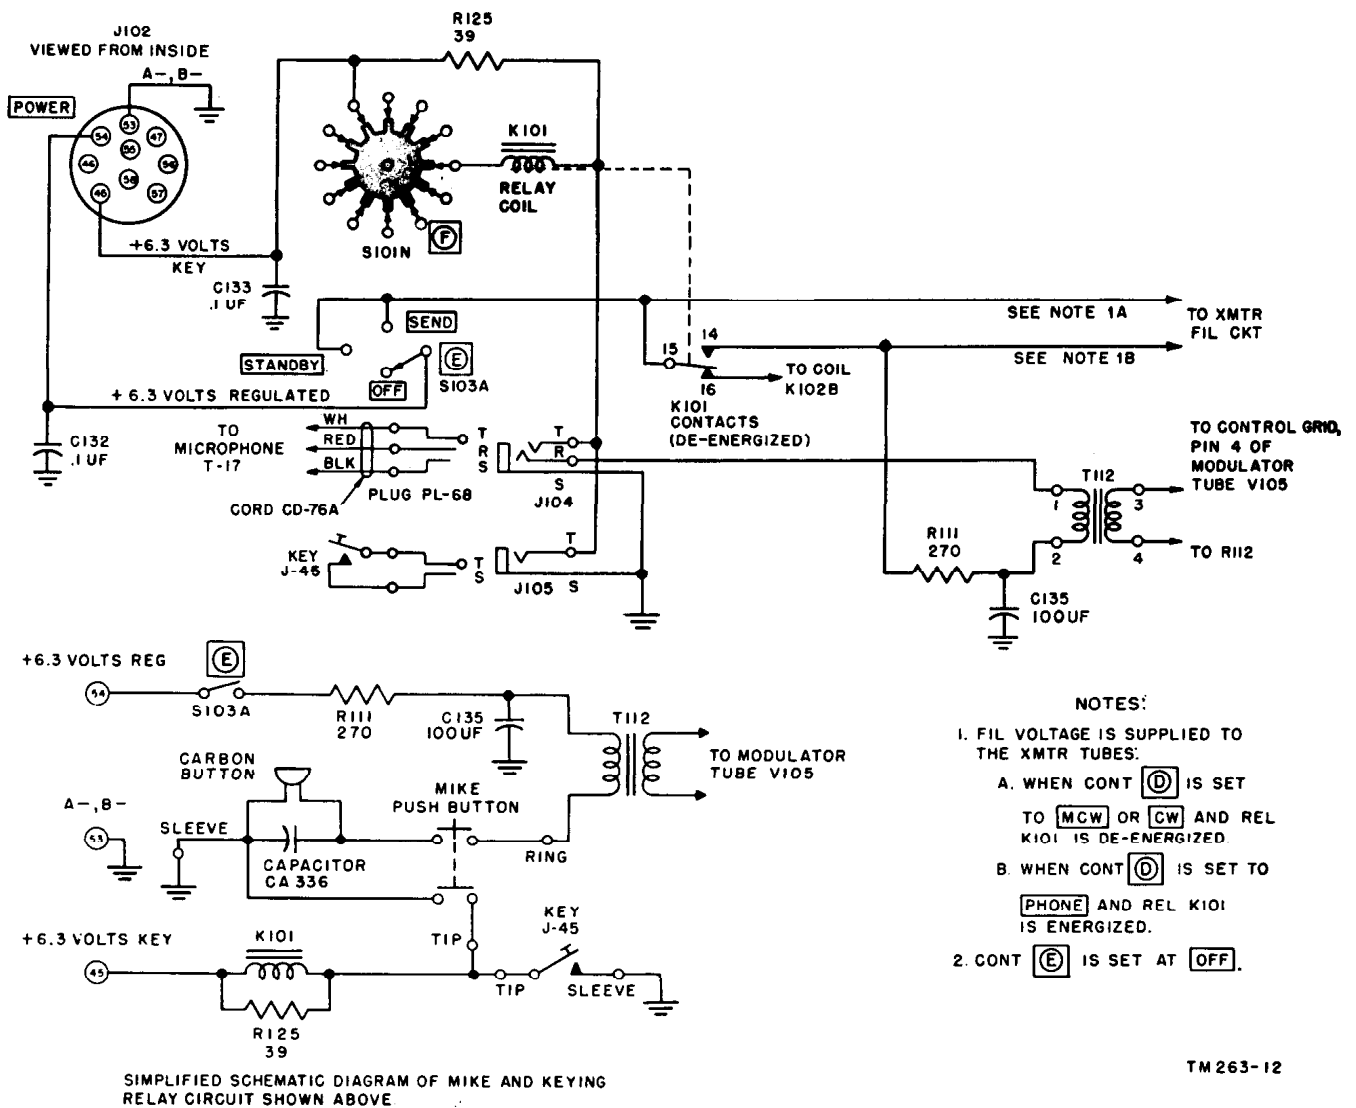
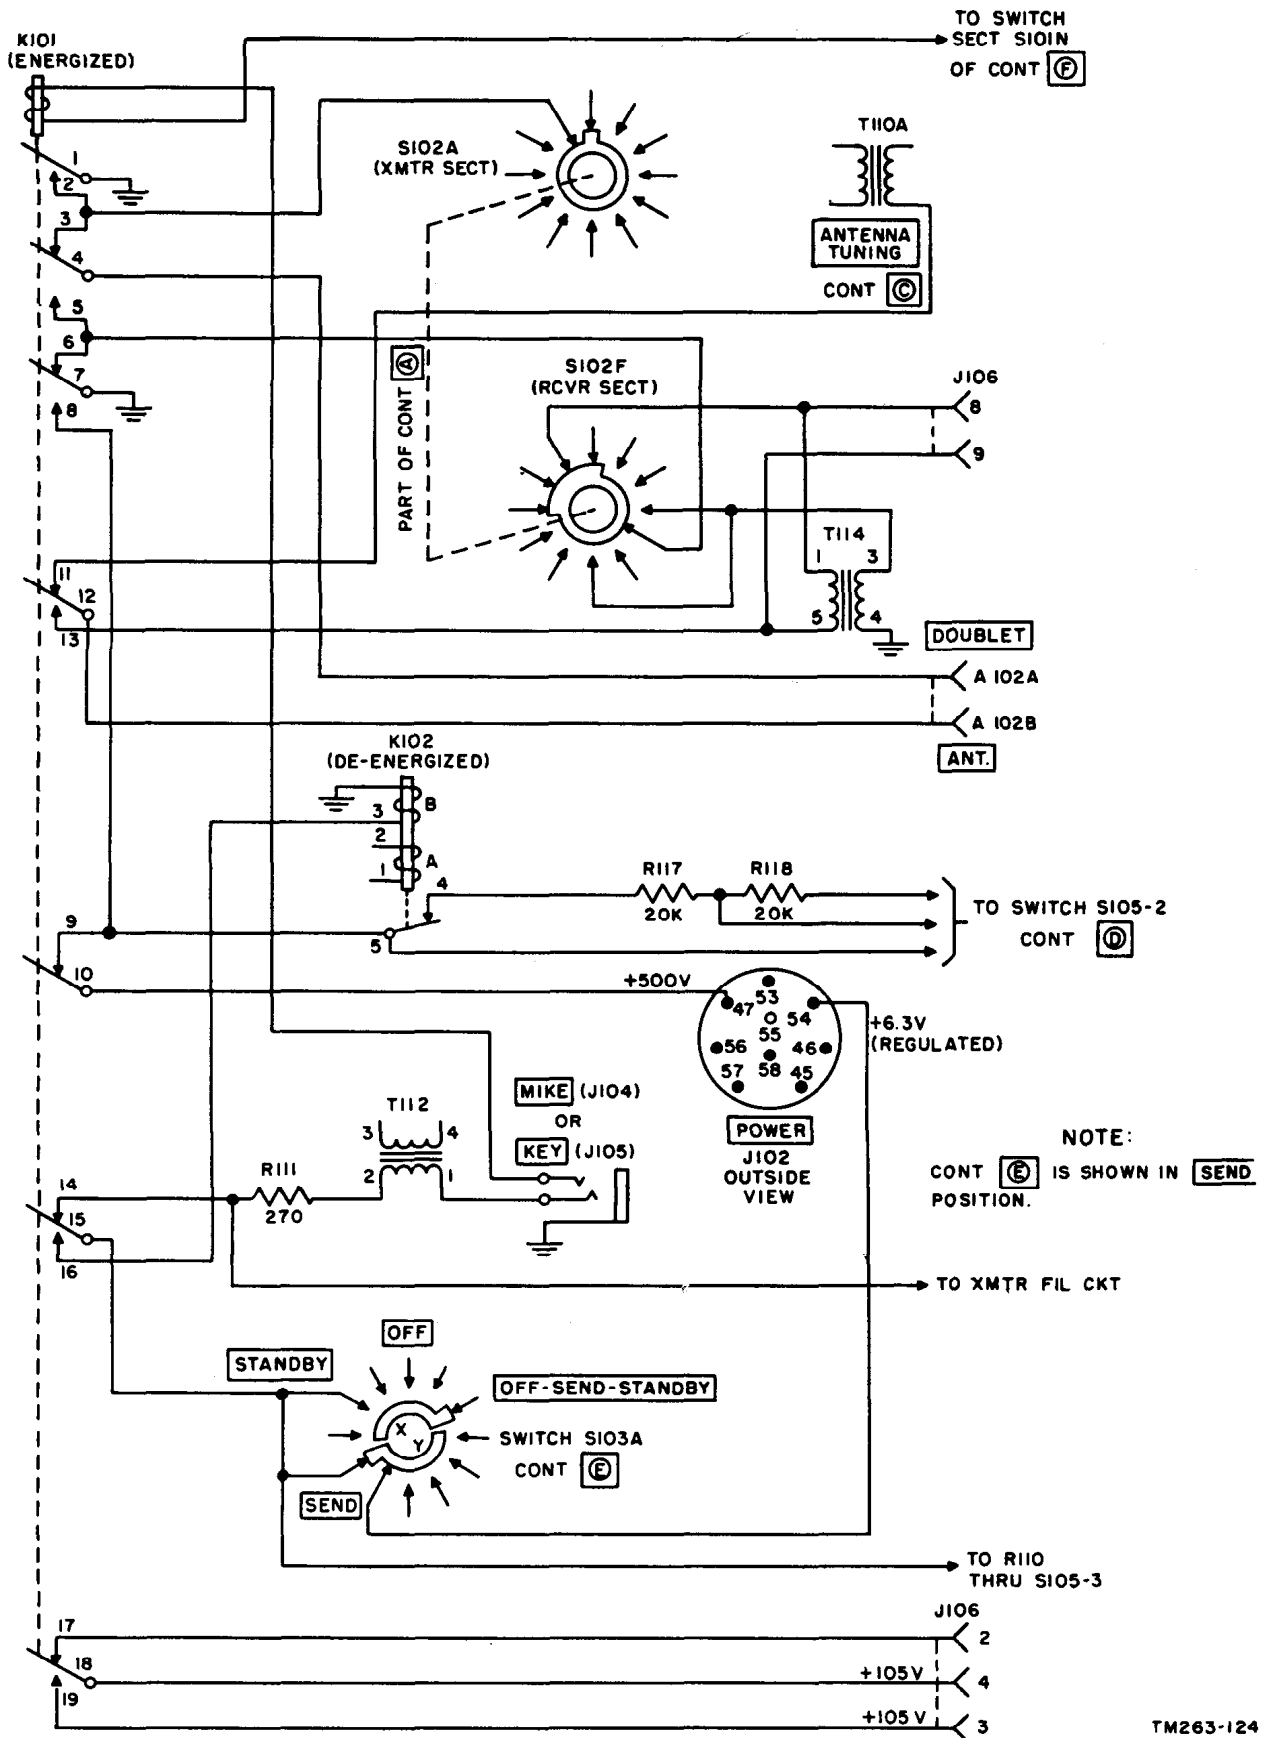

Figure 89. Microphone and key connections.
Figure 92. Relay K101 contacts.
b. The transmitter filaments receive their voltage from pin 54 of receptacle J102 (fig. 89). The regulated 6.3-volt supply is fed to switch section S103A, control Ⓢ, and from there to S105-3, control Ⓧ, and also to contact 15 of keying relay K101. When control Ⓧ is in the PHONE position (fig. 88), the tubes and the dial light can receive filament voltage only if contacts 15 and 14 of K101 close (fig. 92); which they do only when the key or microphone button is pressed. When control Ⓧ is in the MCW and CW positions, the filaments receive voltage regardless of the position of the relay contacts (fig. 88).
### 119. Keying Relay K101 (fig. 92)